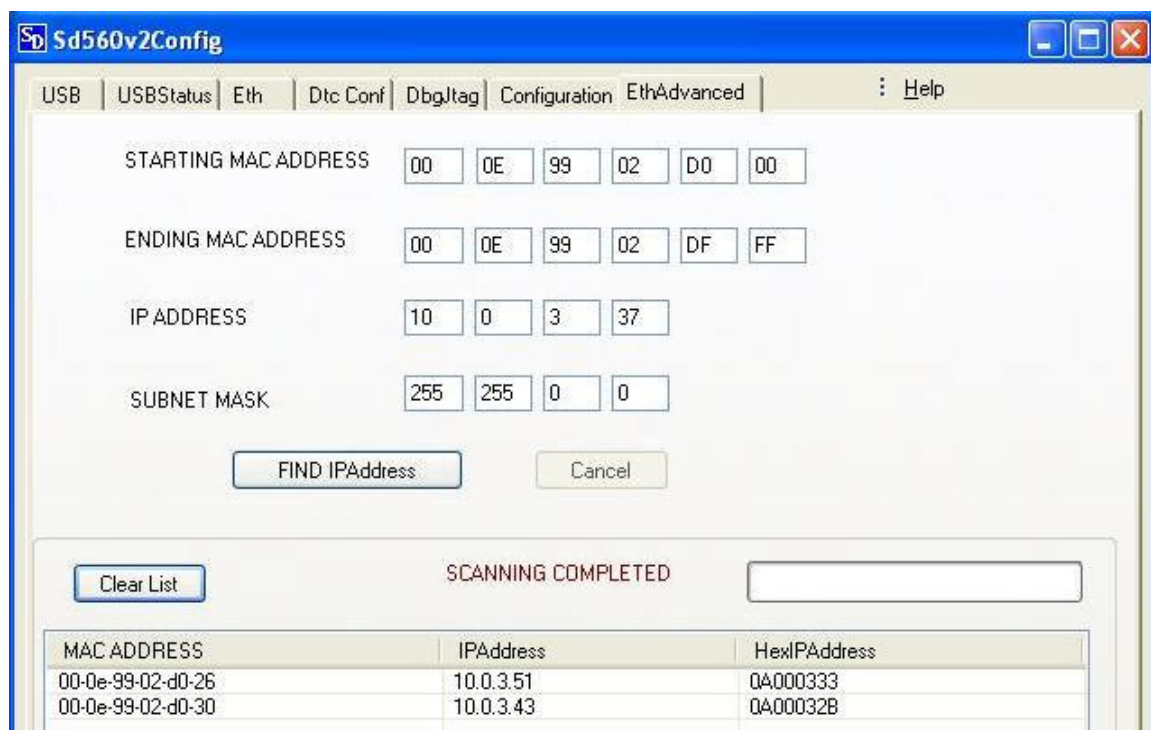

FIGURE 28: Sd560v2Config utility – EthAdvanced tab.
- Press on the Find IPAddress button and wait for the SCANNING COMPLETED message on the output window. A sample output is as shown in figure 28 below.